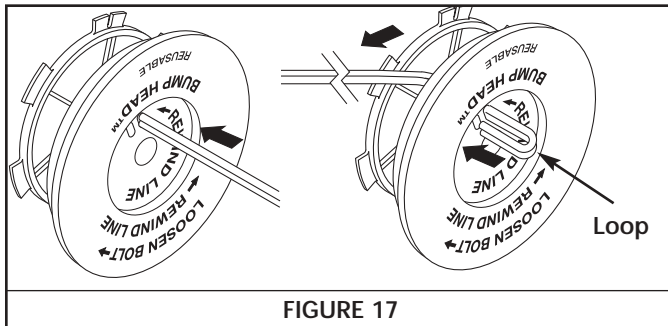

FIGURE 17
- Take approximately 20 feet (6.1 m) of new trimming line. Insert one end of the line through one of the two holes in the inner reel. Pull the line through the inner reel until only about 4 inches is left out. See Figure 17.
- Insert the end of the line into the open hole in the inner reel and pull the line tight to make the loop as small as possible. See Figure 17.